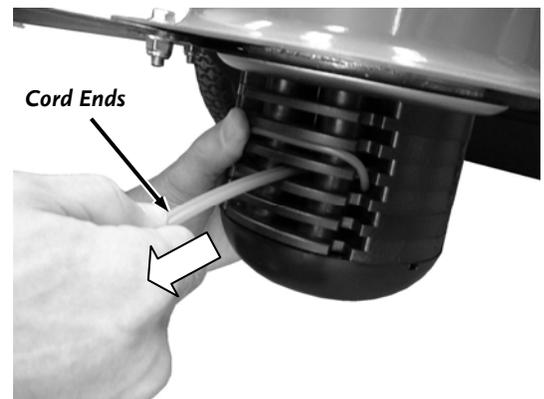

Figure 10
16. Pull the Cords under the loop and push the loop up into the Line Plate groove above them (**Figure 10**) and then pull the Cords tight.